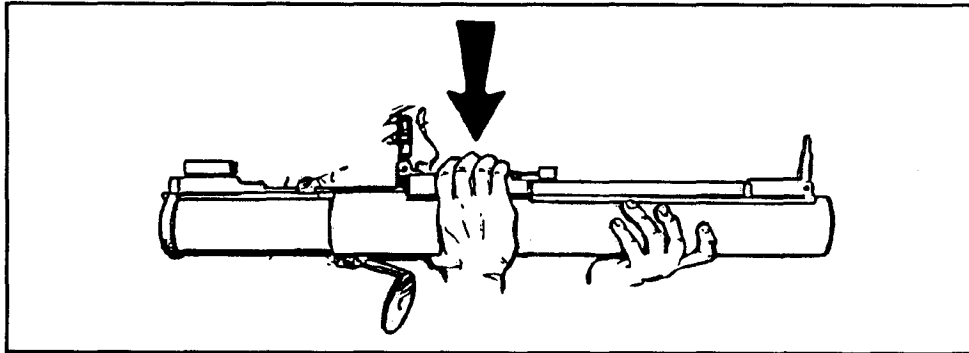

Figure 2-19. Firing the launcher.
b. To fire the rocket launcher, raise it slightly above shoulder level, rotate your body under it, and place it on your shoulder. *Check the backblast area*, pull the trigger arming handle to the ARM position, aim the launcher, and depress the rubber boot on the trigger bar firmly to ensure the launcher fires (Figure 2-19, page 2-14). (If the trigger arming handle will not remain in the ARM position, the launcher is not fully extended.) Press the trigger bar causes the firing pin to strike the primer, which ignites the black powder in the flash tube, which in turn ignites the propellant in the rocket motor.